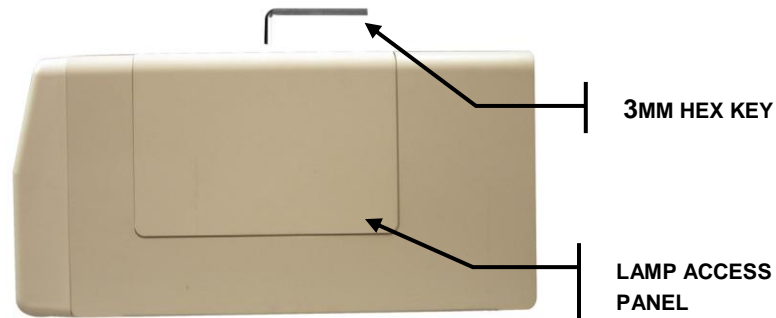

Figure 3 Side Panel-Lamp Access Panel
5.1.10 Replace the lamp access panel and tighten the fastening screw. Reference Figure 3.